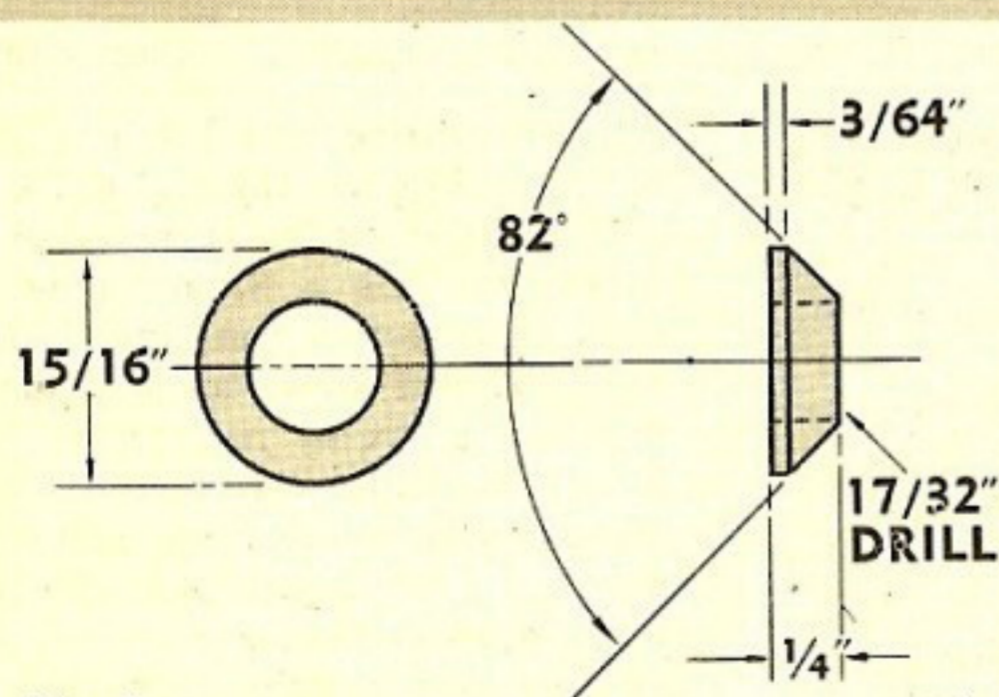
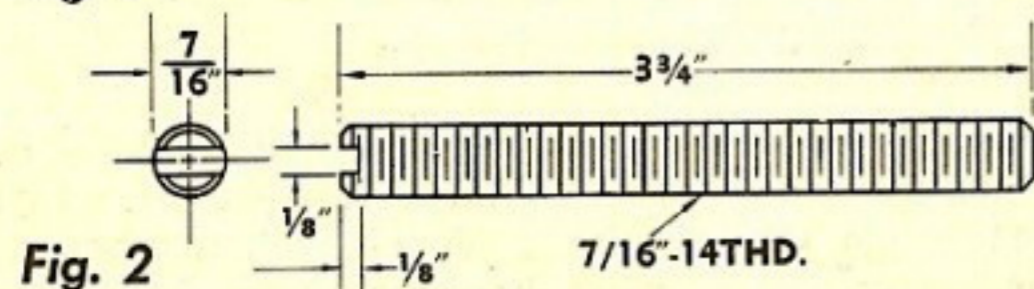
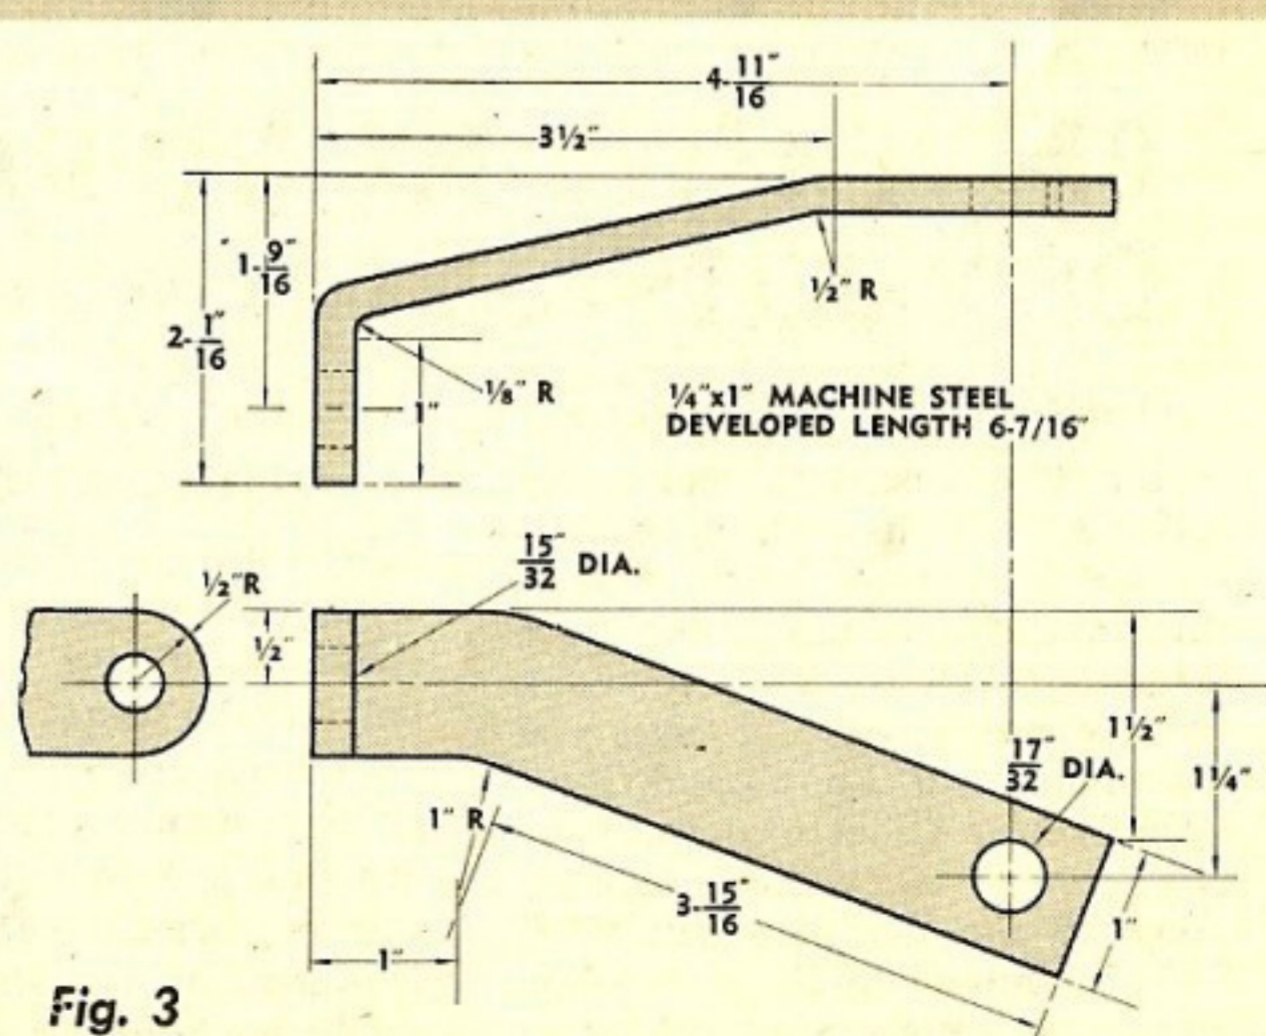
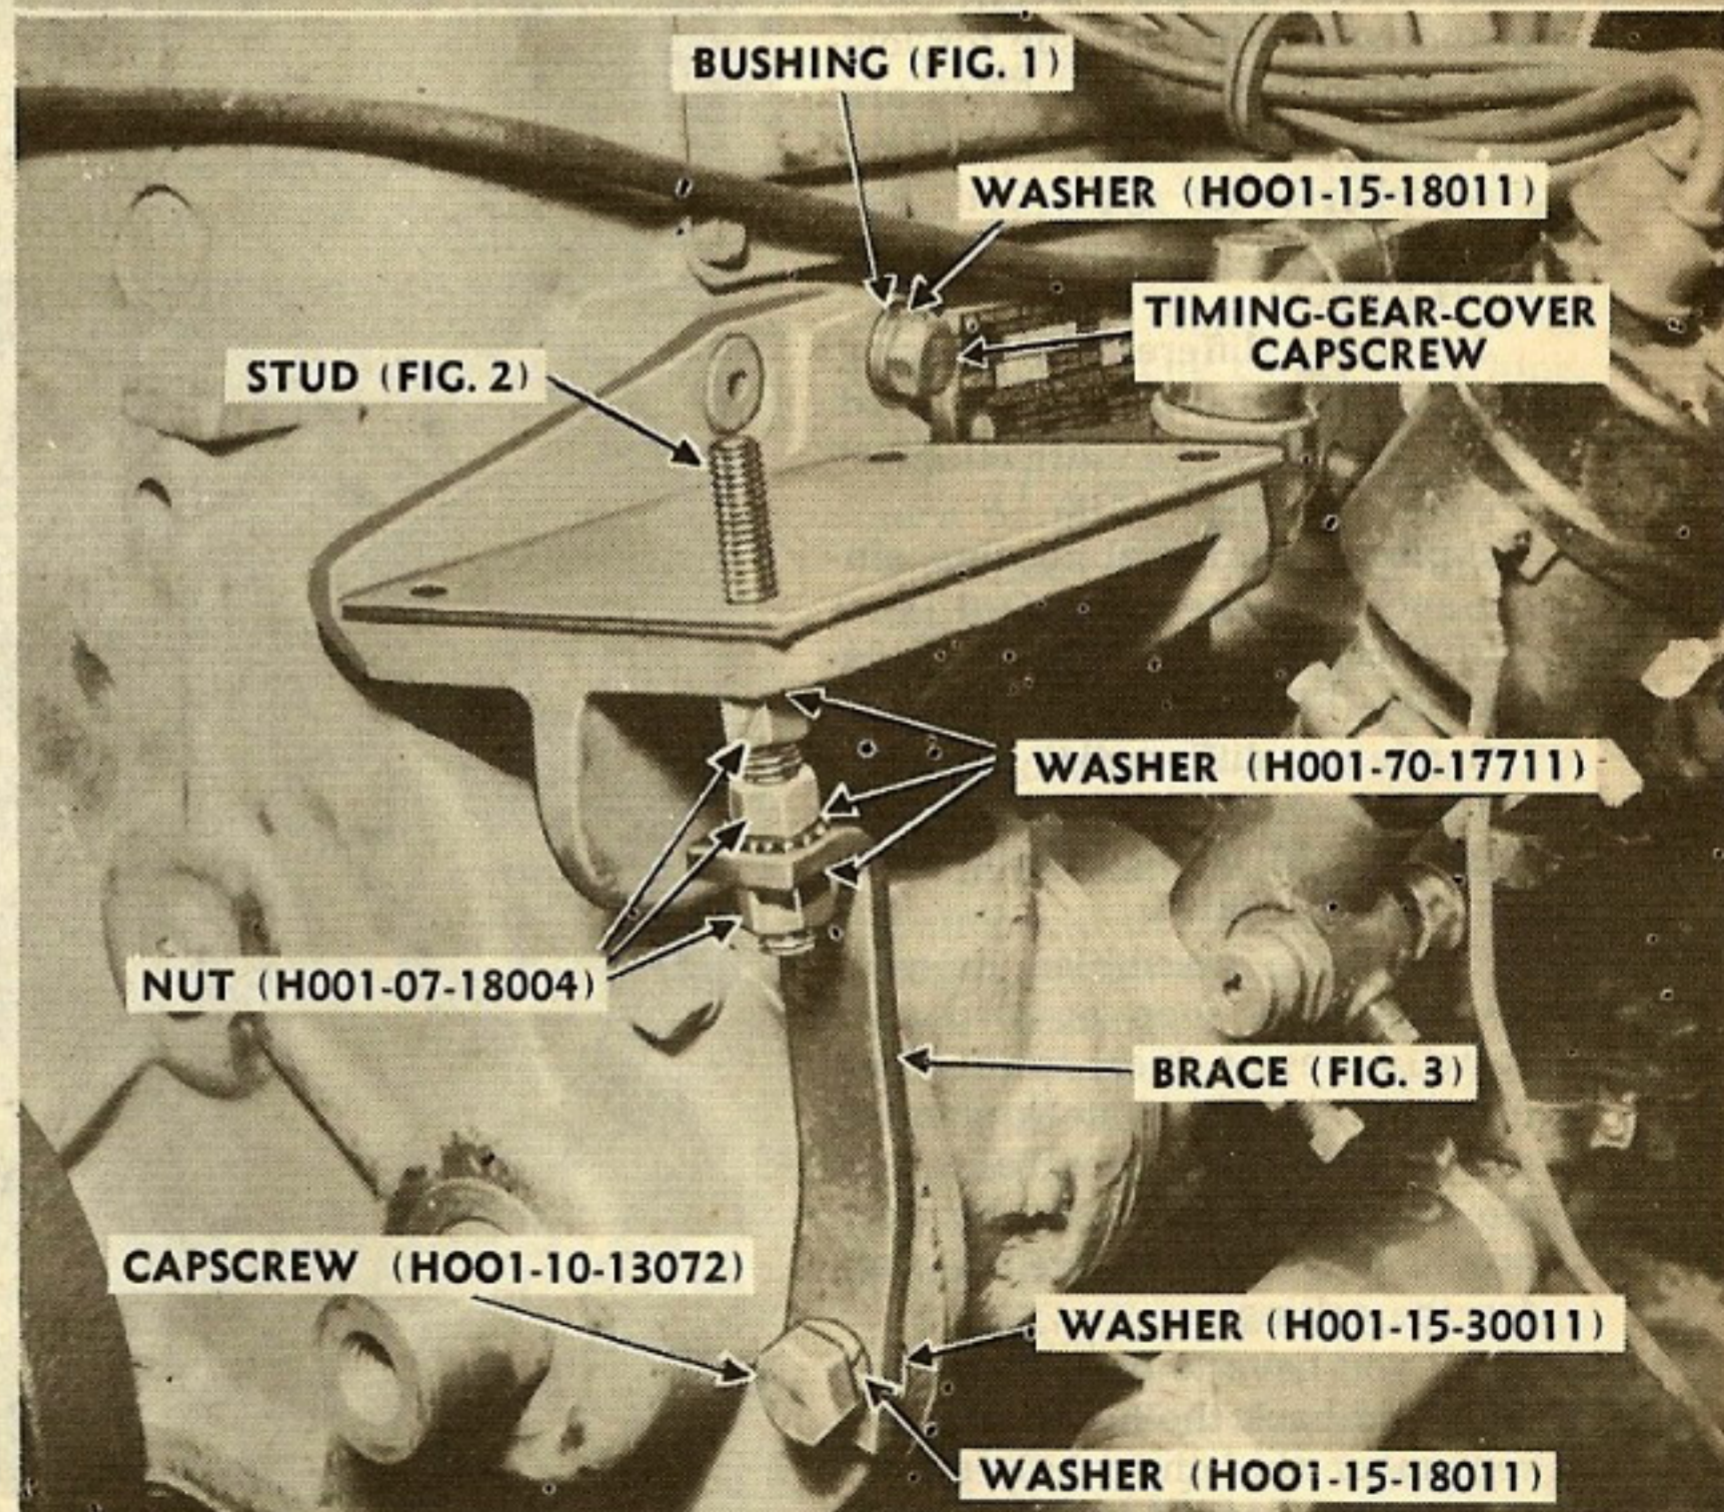

Fig. 1
Fig. 2
Fig. 3
Fig. 5—After a new gasket's atop the bracket, seat the compressor tight with 3 capscrews—washer (H001-15-18010) and nut (H001-07-18004) on the stud.
(4) Drain the cooling system and disconnect the water and air lines from the air compressor. Now loosen the fan belt.
(5) Unscrew the four screws from the base of the air compressor and lift the compressor off the mounting bracket.
(6) Remove the mounting bracket from the engine and throw away the old gasket.
(7) Take out and save a cap-screw from the timing-gear cover just below the compressor bracket (see Fig. 5).
to take it off, with the exception of one. In the rear-upper hole (see Fig. 5) use the capscrew you removed from the timing-gear cover, the tapered bushing you made (Fig. 1), and a lockwasher (H001-15-18011). That makes four screws in the bracket—tighten them tight so the bracket won't wiggle.
(2) Screw the stud you made (Fig. 2) into the outer-front hole of the bracket—use a screwdriver. There should be about 1¼" of stud above the bracket.
(3) Lock the stud in place with a washer (H001-70-17711) and a nut (H001-07-18004). Run a second nut and then a second washer (like the first ones) well up on the stud.
(4) After the washer comes the brace you made (Fig. 3). Slip one end of the brace onto the stud and fasten the other end to the timing-gear cover with a washer (H001-15-30011) beneath the brace (see Fig. 5)—and a washer (H001-15-18011) and a capscrew (H001-10-13072) on top of the brace.
(5) Now run the second nut on the stud down against the brace until it starts to tighten. Then run a third washer (H001-70-17711) and nut (H001-07-18004) on the stud and tighten them underneath the brace. And tighten the third nut until it's really tight.
(6) Install a new gasket (G126-0194157) on the compressor mounting-bracket.
(7) Fit the air compressor over the stud so it sits firm and flat on the mounting bracket. Put back the three capscrews you unscrewed before you lifted off the air compressor; and then, over the stud goes a lockwasher (H001-15-18010) and the last nut (H001-07-18004).